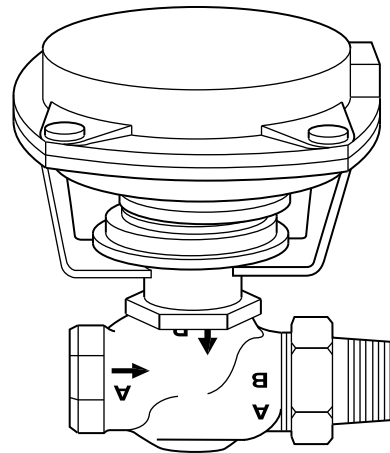

Figure-2 MK4600 Actuator Mounted on Valve.
5. Install the actuator onto the valve by screwing the actuator base onto the mounting nut (Figure-2). The actuator may be rotated as desired to facilitate making the pneumatic connection.